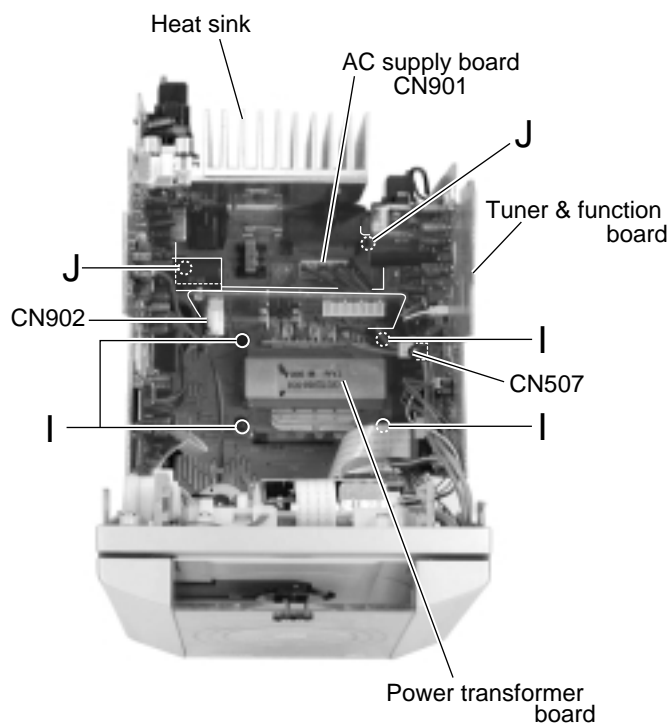

Fig.16
■ Removing the power transformer (See Fig.16)
■ Removing the AC supply board (See Fig.16)